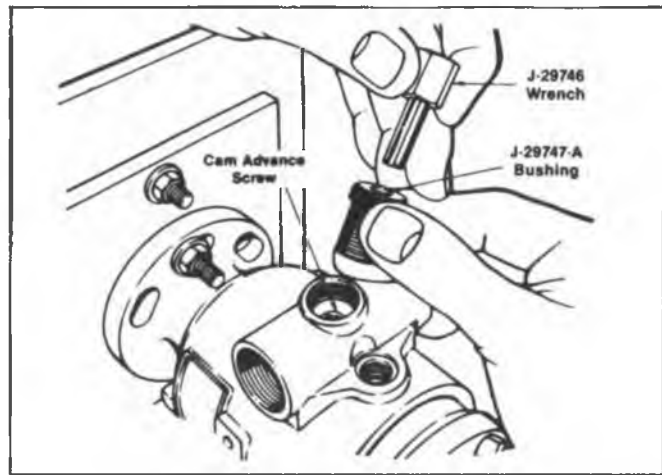

Fig. 2-34 Cam Advance Screw and Tools
- (C.) Install tool J-29747-A and tool J-29748-A and remove the cam advance screw. Be sure to fully seat tool into the ball end to reduce the possibility of breakage (Fig. 2-34). Some tools were manufactured with a 30° chamfer on the end of the tool. The life of the tool can be extended by grinding a 60° chamfer on the tool. All tools now have a 60° chamfer.
8. On all models without external advance, install the cam advance screw using tool J-29747. Torque to 37-38 ft. lbs. (Fig. 2-34). Check for freedom of movement on cam ring. If it binds, tap lightly with a plastic mallet and re-check. Use grease to hold advance piston side washers in place and install the advance screw components, piston hole plug (power side) and piston hole plug (trimmer side), using new seals and lubricate. Torque plugs to 18-22 ft. lbs.